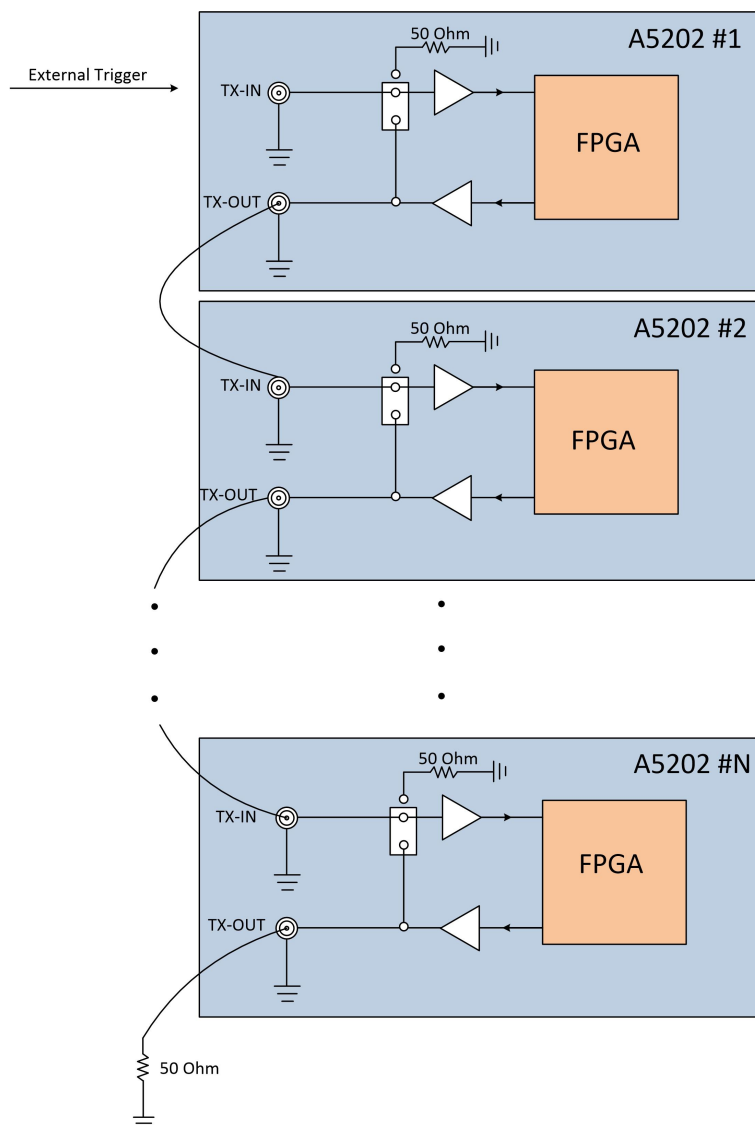

Fig. 8.12: Schematic diagram of a daisy chained trigger distribution.
This modality is particularly useful in case the user may want to propagate a common external trigger to all boards in the FERS-5200 system via the T1-IN/T1-OUT (or T0-IN/T0-OUT) connectors. However, by using a default configuration for the TX-IN jumpers, several delays would be introduced to the trigger signal when connecting in daisy chain TX-IN and TX-OUT connectors of all boards (due to FPGA processing of the signal). For this reason, a bridged connection for all TX-IN/TX-OUT connectors of all boards has to be created moving the jumpers as explained in Sec. 8.4.4. In Fig. 8.12, a schematic overview of a system composed of N A5202 units with a daisy-chained connection of the TX-IN/TX-OUT connectors is presented.
- Create a daisy chain as in Fig. 8.12 with an external trigger transmitted to the TX-IN connector of the first board.